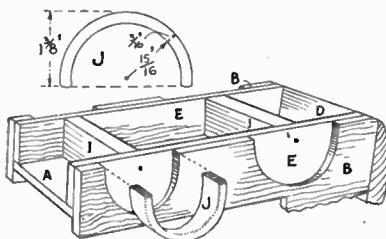

Fig. 5
We now come to the mudguards (J), of which there are four all of the same size and shape. Wood  $\frac{3}{8}$  in. thick is suggested for these, and each is cut from wood  $2\frac{1}{2}$  ins. by  $1\frac{1}{2}$  ins. as shown in the enlarged detail in Fig. 5. The main diagram here is of the underside of the van showing the axles and one of the mudguards ready to be put into place on piece (E), and in the curved recess in piece (B).